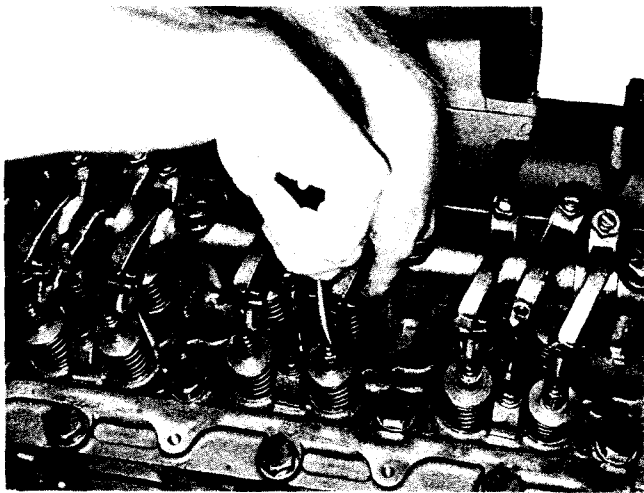

Fig. 2-40, (V51490). Adjusting crossheads — V-903
2. Use light finger pressure at rocker lever contact surface to hold crosshead in contact with valve stem (without adjusting screw). Fig. 2-40.